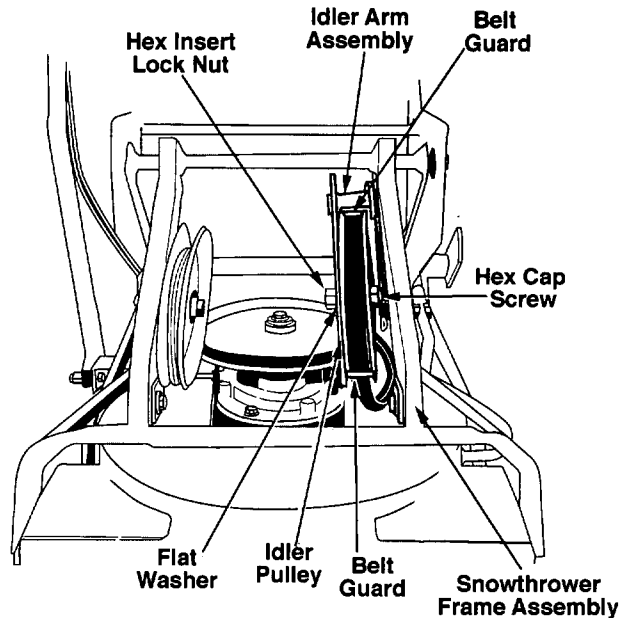

Figure 30
4. Rotate the idler arm assembly so that the hex cap screw securing the idler pulley to the arm is accessible beneath the snow thrower frame assembly. Refer to Figure 30.
5. Remove the hex cap screw and hex insert lock nut securing the idler pulley to the idler arm. See Figure 30.
6. Referring to Figure 30, slide the idler pulley from between the belt guard pins of the idler arm and remove the drive belt. Use care to avoid losing the flat washer that is installed **between** the idler pulley and idler arm.